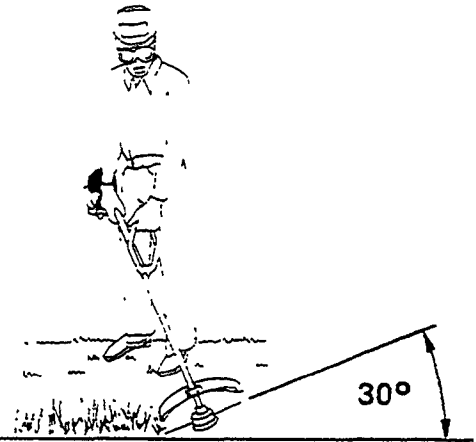

Figure 16
- Hold unit so the rotary head is at an approx. 30° angle to the ground (**Figure 16**).
- Cut from left to right with the engine at full throttle, so that clippings will be thrown away from you (**Figure 16**).